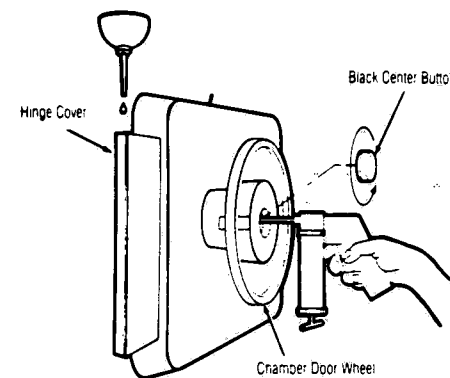

FIGURE 4-3 - Lubricating Chamber Door
Place a few drops of heavy machine oil (SAE 20 or 30 motor oil) on chamber door hinge pins, top and bottom (Figure 4-3). Work oil into hinge by opening and closing the door several times.
- a. Unscrew the black button in the center of chamber door wheel to expose the door post grease fitting (Figure 4-3).